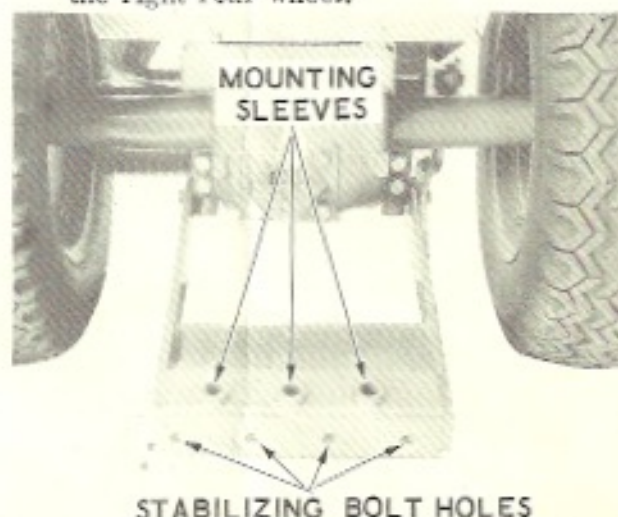

Figure 3. Implement Mounting and Stabilizing Points.
4. **MOUNTING SLEEVES** - See Figure 3. There are three mounting sleeves on the hitch to permit centering or offsetting implements. When mounting a plow be careful to select a sleeve which will permit the share to cut cleanly to the edge of the furrow or to the inside of the right rear wheel.